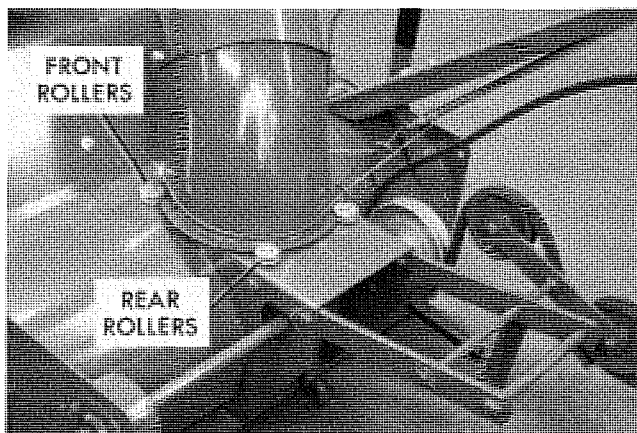

Figure 1
1. Install the mounting frame assembly by inserting the end with the four bolt holes into the blower housing frame. The arms should extend upward from the blower housing as shown in figure 1. Use the bolts and nuts provided to secure in place.
2. The shroud assembly is held by four rollers on top of the blower housing as shown in figure 1. To install the shroud, loosen and slide the two rear rollers back, fit the collar of the shroud into the front roller grooves, and move the rear rollers forward to fit snugly against the collar. Tighten the bolts, making sure the shroud rotates freely.
3. Attach the crank and support assembly to the blower housing and support bracket with the pre-installed bolts, nuts, and reinforcement plates. Place one of the plates (19) inside the blower housing and the other on top of the crank support mounting tab. Remove both preinstalled cotter pins (23) and the lower washer (7) from the crank. Insert the end of the crank rod through the hole in the support bracket and reinstall the washer (7) and cotter pin (23). Compress spring (24) against the end of the crank support and reinstall cotter pin (23) above the upper washer (7).